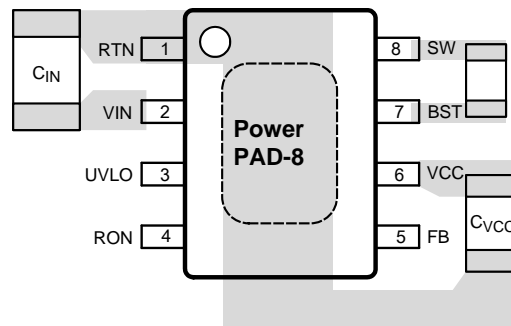

Figure 23. Placement of Bypass Capacitors
1. C_{IN} : The loop consisting of input capacitor (C_{IN}), V_{IN} pin, and RTN pin carries switching currents. Therefore, the input capacitor should be placed close to the IC, directly across V_{IN} and RTN pins and the connections to these two pins should be direct to minimize the loop area. In general it is not possible to accommodate all of input capacitance near the IC. A good practice is to use a 0.1- μ F or 0.47- μ F capacitor directly across the V_{IN} and RTN pins close to the IC, and the remaining bulk capacitor as close as possible (see Figure 23).
2. C_{VCC} and C_{BST} : The V_{CC} and bootstrap (BST) bypass capacitors supply switching currents to the high and low side gate drivers. These two capacitors should also be placed as close to the IC as possible, and the connecting trace length and loop area should be minimized (see Figure 23).